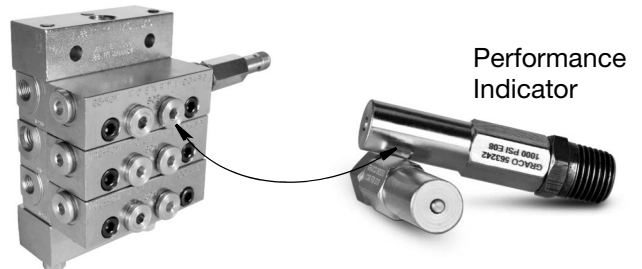

FIG. 9
5. Install 1500 psi (10.34 bar, 103.4 MPa) performance indicators in ports (FIG. 9):